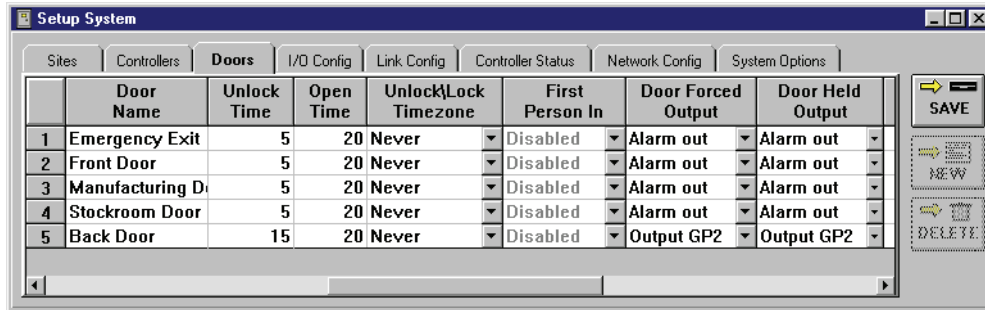

Figure 3-24: Set the Door Unlock Time
- The resulting window should look similar to Figure 3-24 on page 33 of this section.
1. To set a door's open time, click on the Setup ⇒ System pull-down menu or click on the  tool bar button. Then click on the **Doors** tab (see Figure 3-24 on page 33 of this section). If the "Open Time" column does not appear in the window, use the scroll bar at the bottom of the window and scroll to the right until the column appears.